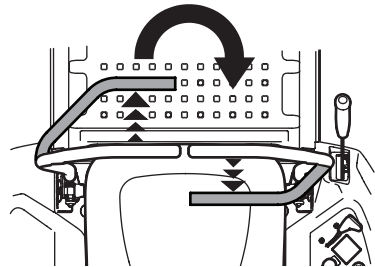

Figure 29
2. To turn clockwise, move the left lapbar drive control lever forward while simultaneously moving the right lapbar drive control lever rearward. See Figure 29.